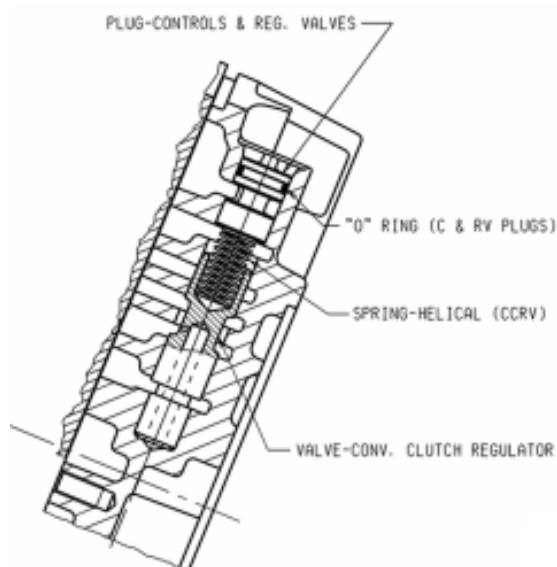

Figure 8.37 Torque converter clutch regulating valve
- k. Install the fixed bolt, install the torque conversion clutch regulating valve, plug and O-ring. Refer to Figure 8.37